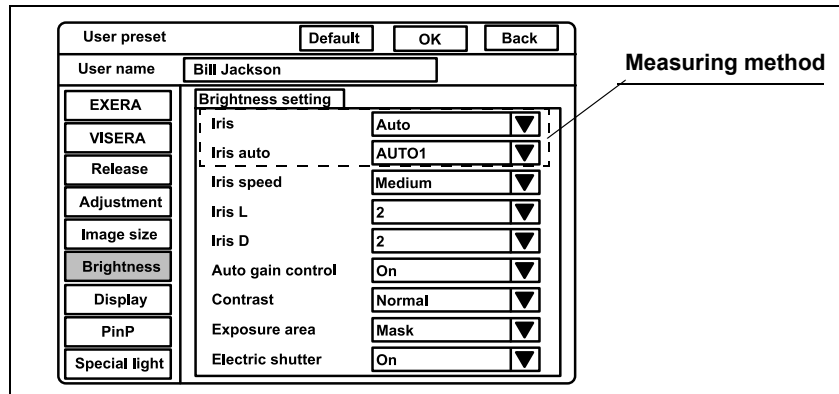

Figure 9.25
1. Click “Brightness” on the system setup menu. The “Brightness setting” appears on the right side of the window (see Figure 9.25).
2. Click “ ▼ ” of “Iris” (see Figure 9.25). The measuring methods appear in the pull-down menu.
4. Click “ ▼ ” of “Iris auto” (see Figure 9.25). The measuring methods of “Auto” appear in the pull-down menu.